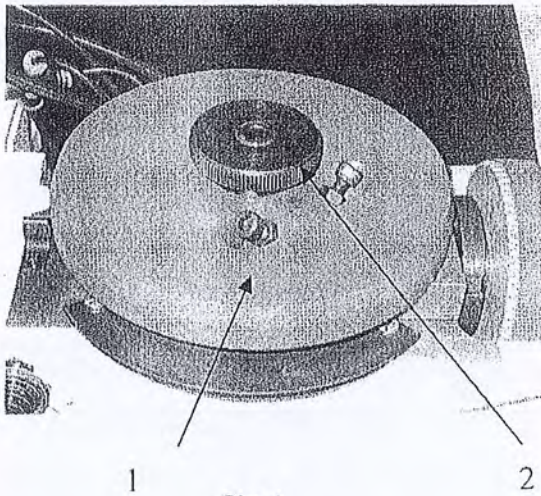

Fig.4
By changing cam(1),the zigzag type can be changed from one steps to two steps or three steps. Loosen the screw(2) , remove the cam(1) and replace the required one (Fig.4) .